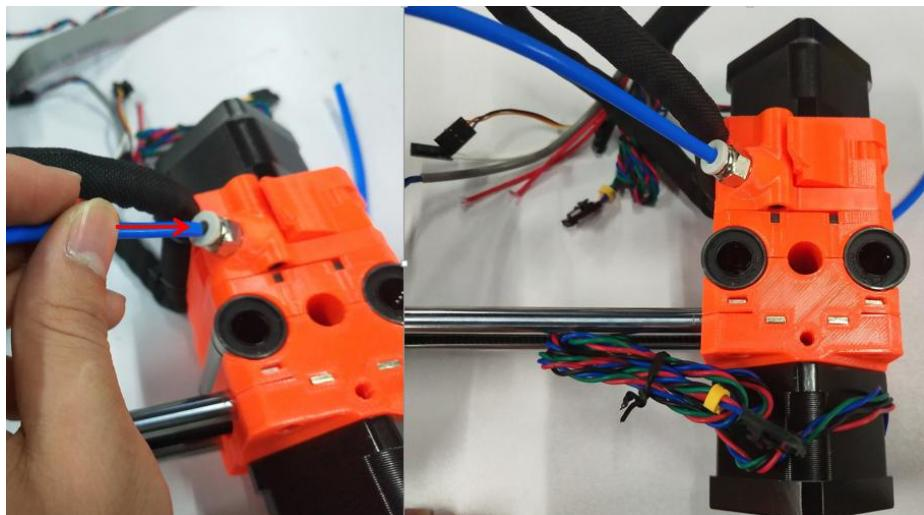

Figure 2.14.3
**Step 2-14-3:** As shown in Figure 2.14.3, insert the other end of the Teflon tube into the fast connector-peg on the MINI-extruder-rear. (Pay attention to make sure that the Teflon tube is inserted all the way)